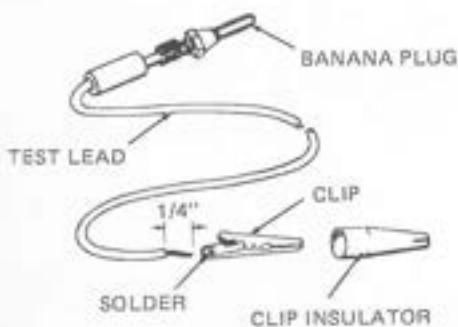

Figure 47. Assembling the test leads.
- (1) Remove 1/2" insulation from one end of the black test lead wire and 1/4" from the other end. Lightly tin each end. At the end with the 1/2" insulation removed, attach the black banana plug as shown in Fig.47()
(2) At the other end of the black test lead wire, solder one of the miniature alligator clips. A simple lap joint is sufficient; it is not necessary to crimp the clip onto the wire()
(3) Slip the large end of the black clip insulator over the end of the alligator clip attached to the black test lead wire. The slits in the narrow end of the insulator should line up with the edges of the clip jaws()
(4) Use the remaining parts to assemble two red test leads following the procedures shown for the black test lead()